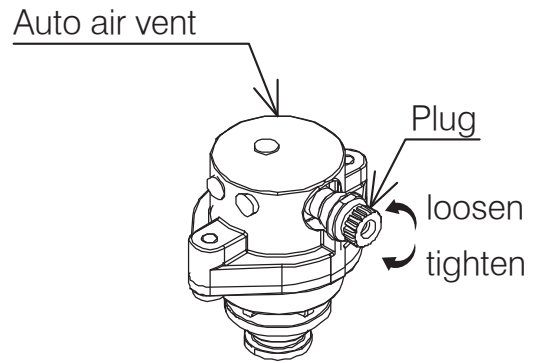

Figure 4-3: Auto Air Vent
3. Remove the top (HPID6R32) and front right (HPID10R32, HPID13R32 and HPID17R32) casing and loosen the plug on the automatic air vent located inside the heat pump. Refer to Figure 4-3.